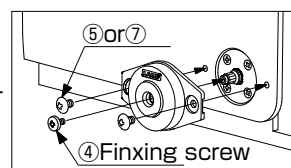

fig.10
- (1) ①ダンパー本体の穴に、③Mt.Pの軸を挿入し、⑤又は⑦の取付ねじで左右共に固定します(図10)。
- (2) ①ダンパー本体を④取付ねじで固定します(図10)。
- (1) Insert the axle of the mounting plate into the hole on the body of damper and fix it using the mounting screws (5or7) on both sides (Fig10).
- (2) Fix the damper body using fixing screw (Fig10).